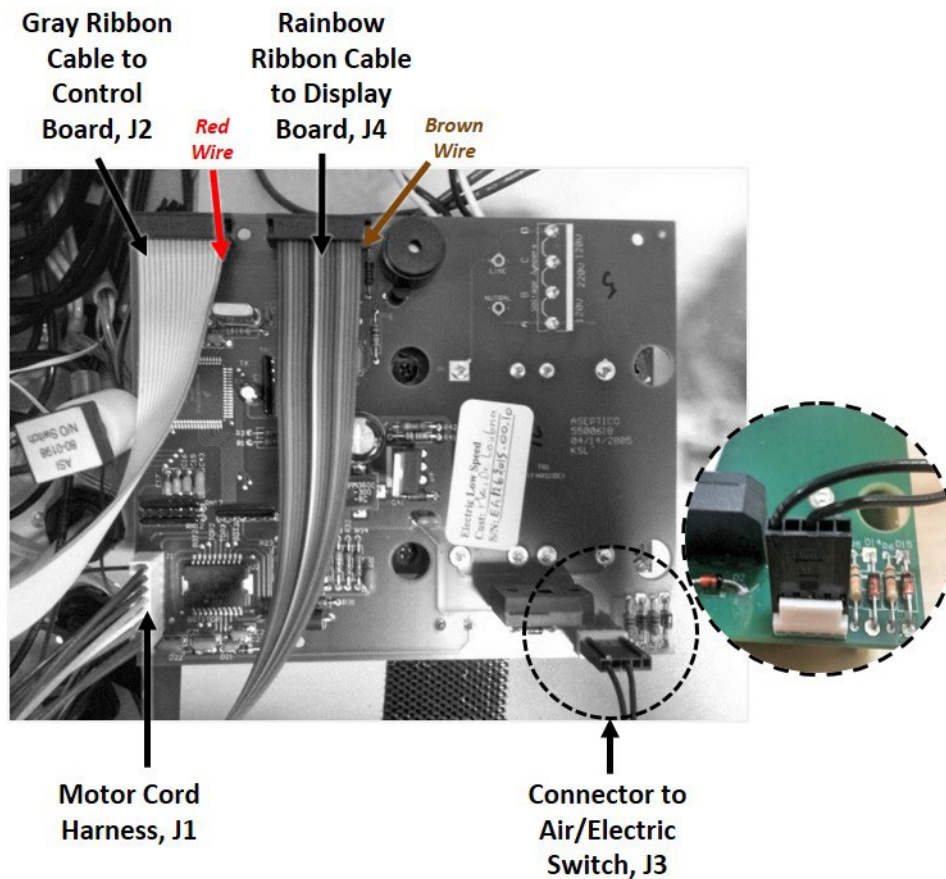

Fig. 11
- i** *For additional information of wire connections, see Fig 11 in section Installing Panel Prepped Aseptico DTC.*
8. Connect, secure connections if pre-connected (Fig. 11)